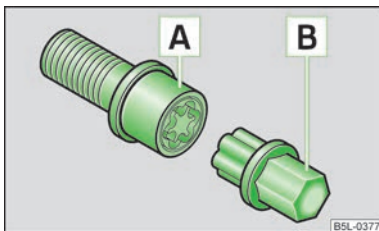

Fig. 115
- Insert the adapter  » Fig. 115 with its toothed side fully into the inner toothed side of the safety wheel bolt  until the stop so that only the outer hexagon is jutting out.